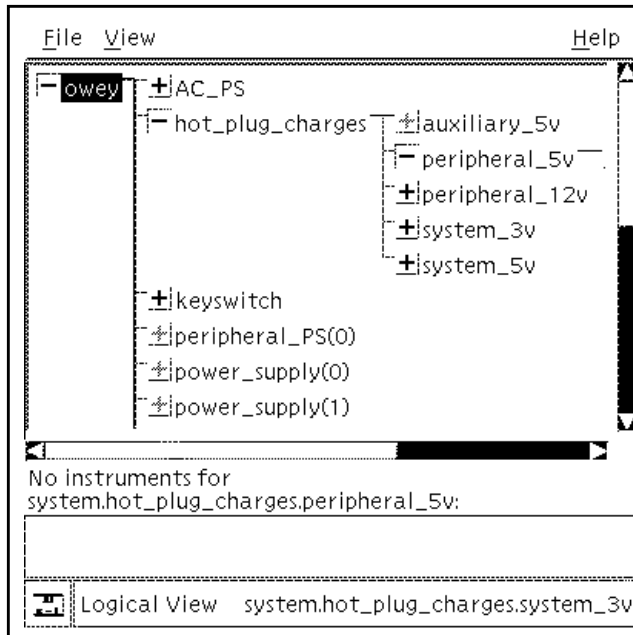

FIGURE 3-5 The Logical View
The Logical View, a companion view of the Physical View, displays the components in a schematic hierarchy (see FIGURE 3-5) instead of showing the front or rear view. Like the Physical View, the Logical View shows detailed information about the status of many components in the server. If a component is responsible for generating an event, it and all higher level components are highlighted in a color (see TABLE 3-2), so that you can quickly locate the component causing problems.
A button to the left of each component in the hierarchy is displayed (see FIGURE 3-5). The two states of the button are:
- Collapsed (+), which contracts the entire hierarchy. The AC_PS component in FIGURE 3-5, noted by a + sign, shows a collapsed display. The hierarchy below the AC_PS component is *not* displayed.
- Expanded (-), which displays the hierarchy one level at a time. The server owey in FIGURE 3-5, noted by a - sign, shows the expanded display to the right.